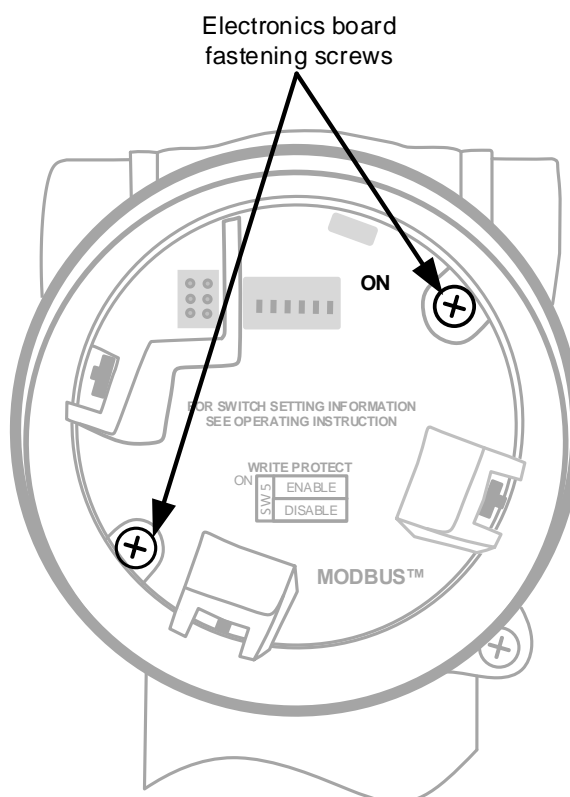

Figure 39: Electronics module
5. Remove the electronics module by removing the 2 fastening screws (Figure 39).
- c. Secure the module with the fastening screws (Figure 39, page 51).